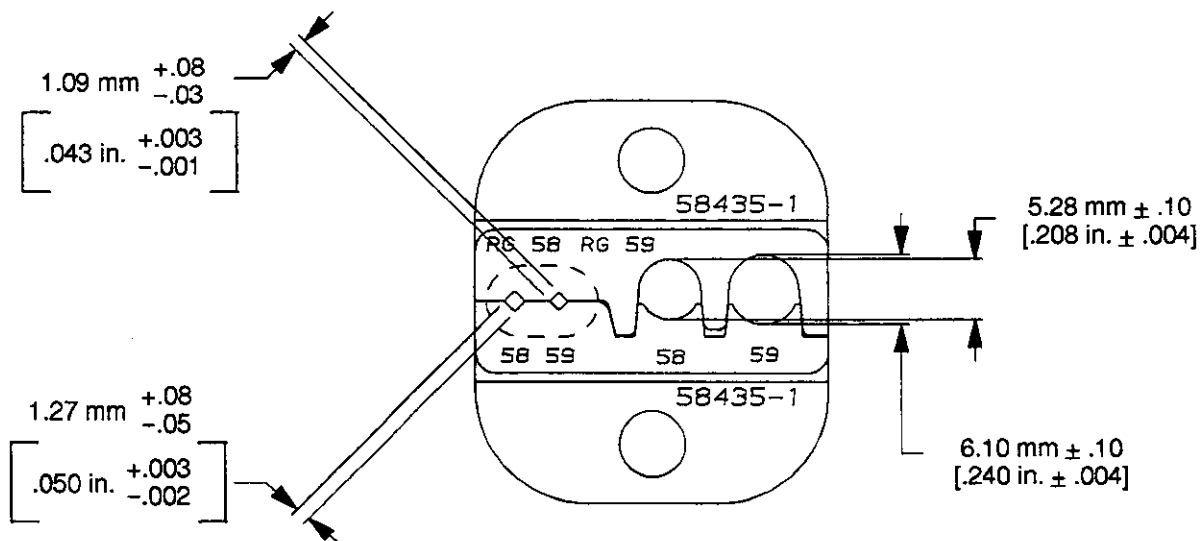

Figure 5
Figure 5 provides information on die opening sizes.
- Changed die opening dimensions in Figure 5.